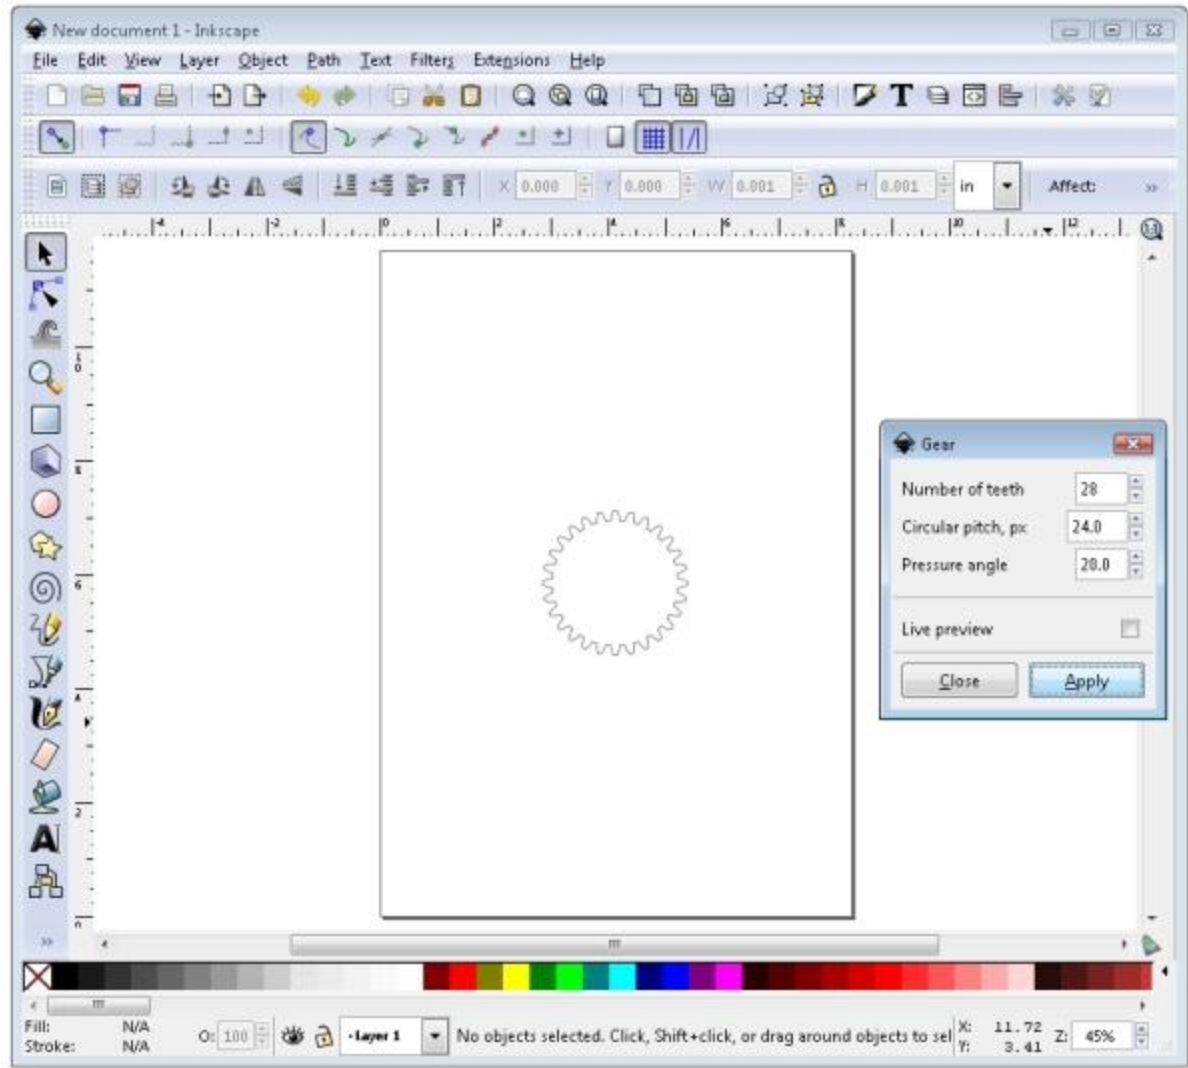

Figure 3
- Now let's make some gears! Go to the toolbar and choose Extensions --> Render --> Gear. A small Gear window will pop up that gives you three options: Number of Teeth, Circular pitch, px, and Pressure angle. Leave Pressure angle alone — the 20° default is standard for off the shelf gears so is a good place to start. In Figure 3, you can see that I chose 28 teeth with a circular pitch of 24. Click Apply, then Close.